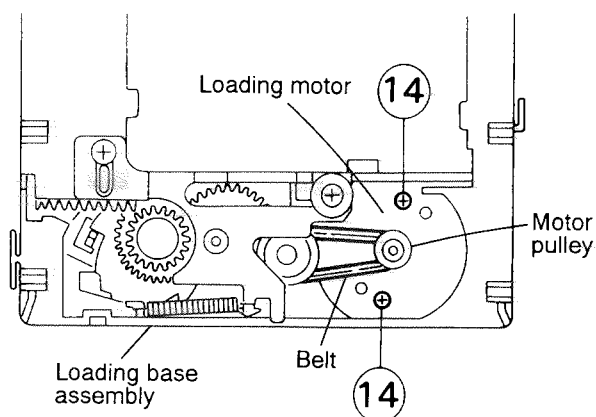

Fig. 5-19
(See Figs. 5-19 and 5-20)
5. From the loading base assembly, remove the two screws (14) retaining the loading motor (See Fig. 5-19).
6. Remove the belt from the motor pulley (See Fig. 5-19).